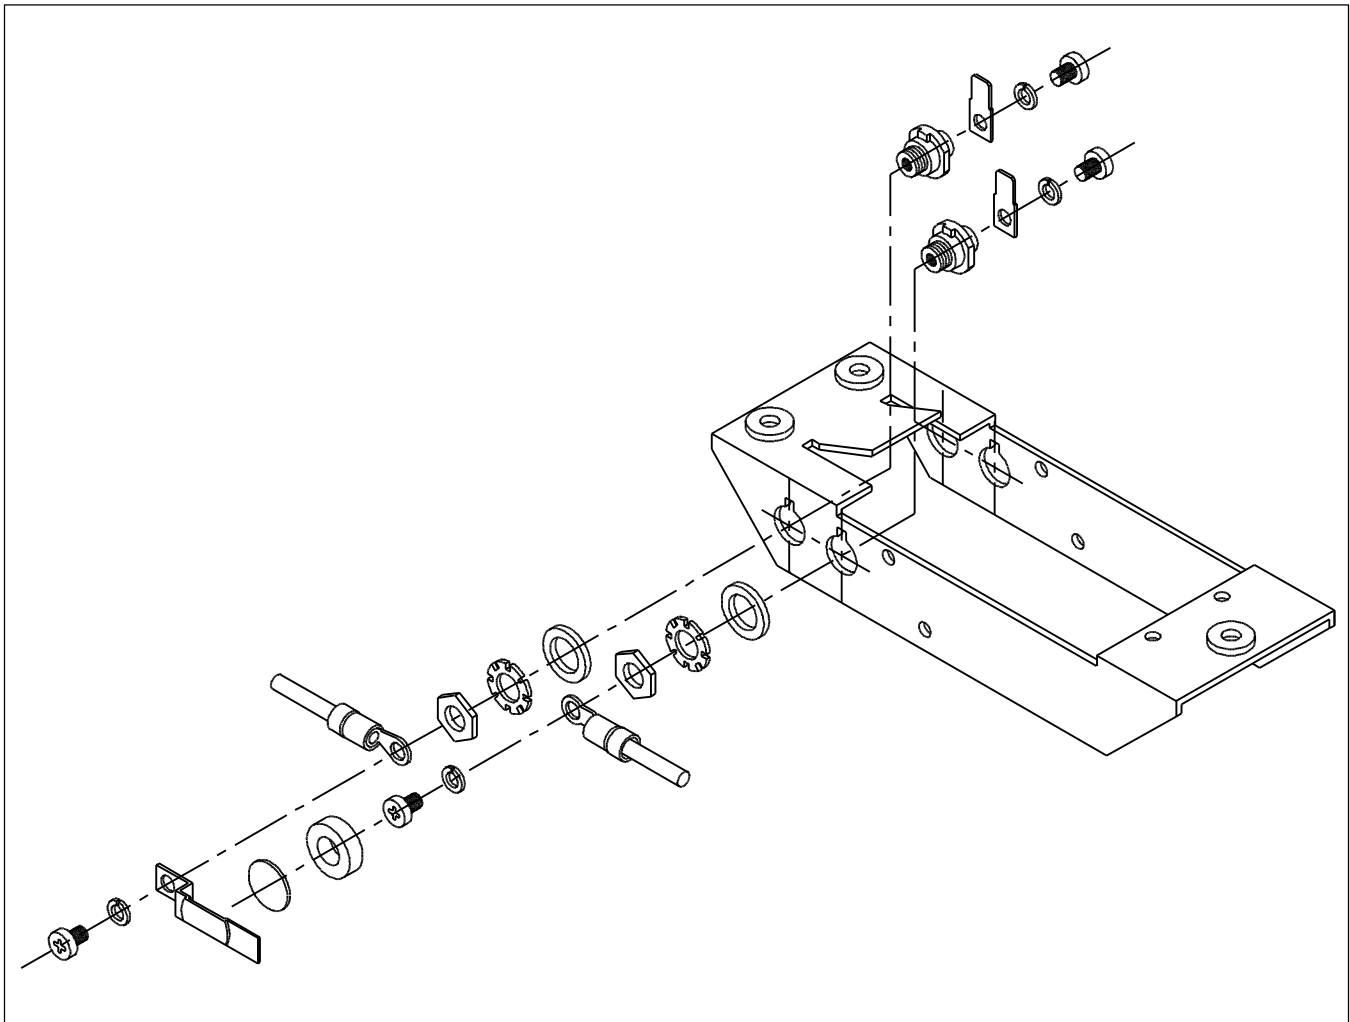

Figure 6. Replacing Film Disc Cutout Assembly
3. Remove and replace cordsets and film disc cutout hardware as required using Figure 6 as a guide.